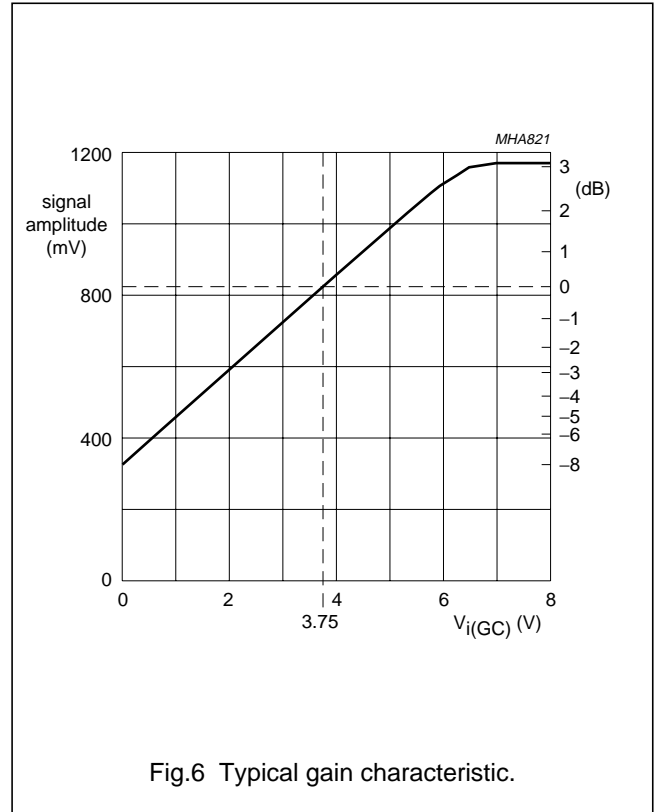

Fig.6 Typical gain characteristic.
6. Linear control range is 1 to 6 V for $V_{i(GC)}$, independent of supply voltage. Typical gain characteristic see Fig.6.